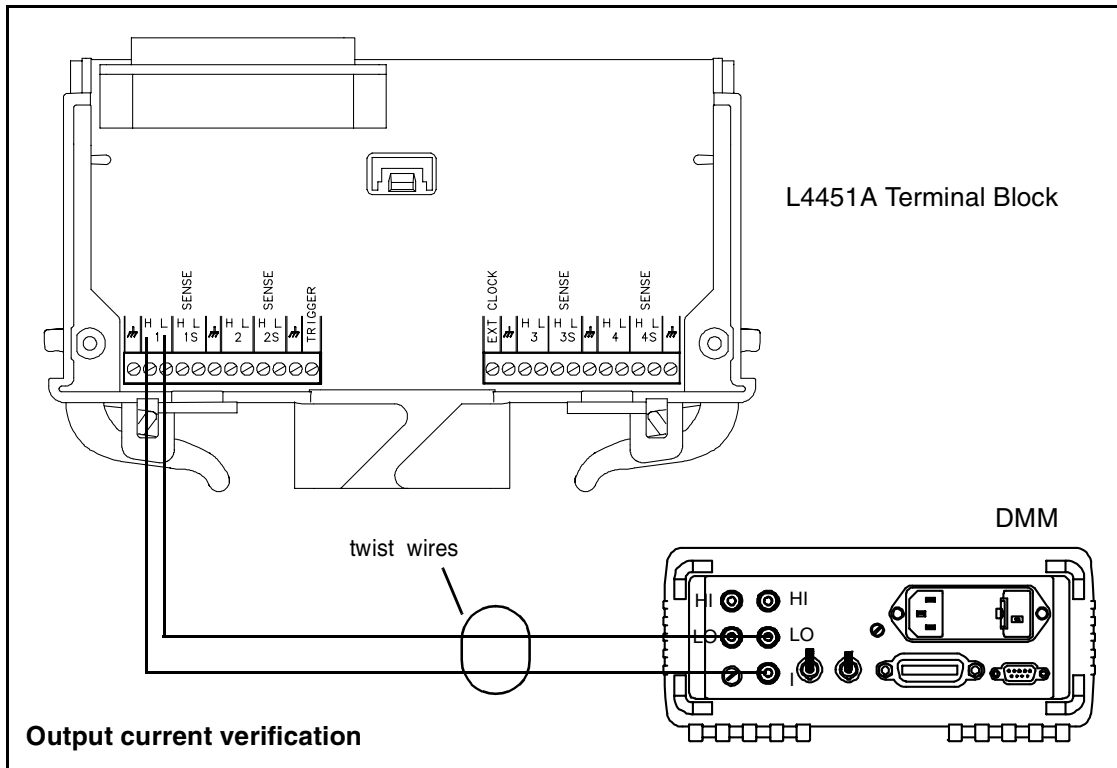

Figure A-1. L4451A Output Current Connections.
The test connections for verifying the L4451A DAC output current and voltage using an external DMM are shown in Figures A-1 and A-2.
- 3 Connect channel 1 of the L4451A as shown in Figure A-1. Configure the L4451A to output the currents listed in Table A-2. For each current level measured, subtract the current offset recorded in Step 2 as applicable. The results should be within the limits listed in Table A-2.
- 4 Connect channel 1 of the L4451A to the DMM as shown in Figure A-1. Set the DMM to measure DC current.